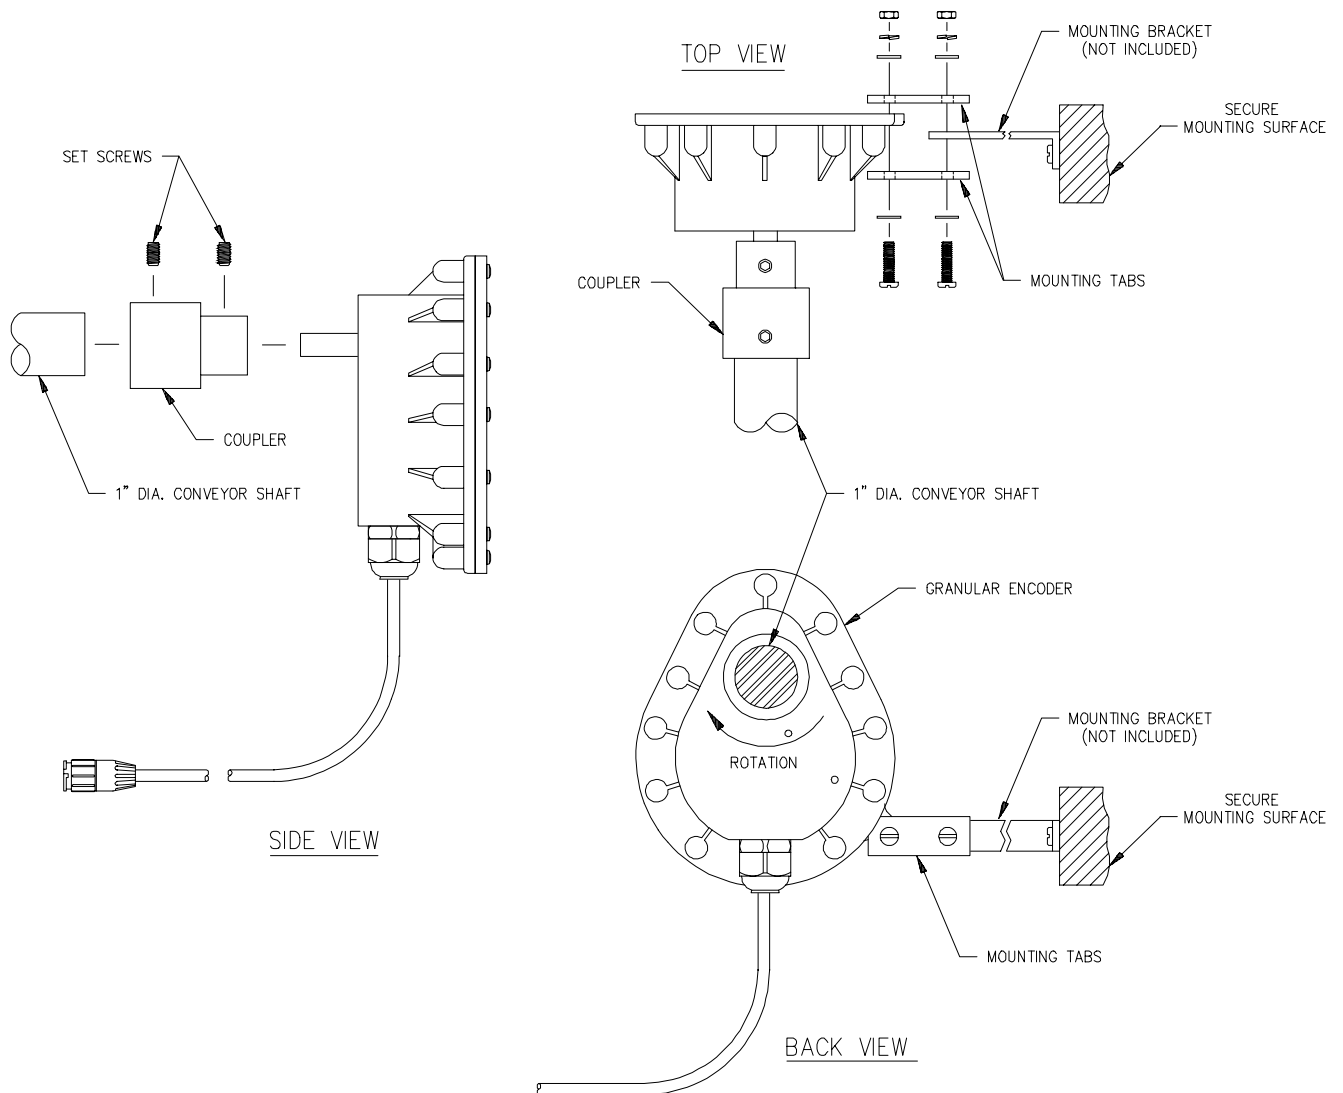

FIGURE 5
- 3) Install mounting tabs to Encoder as shown in Figure 5. Connect mounting tab to mounting bracket (not provided) to prevent Encoder from rotating. **DO NOT** rigidly mount Encoder. Encoder is to be supported by coupler **ONLY**.